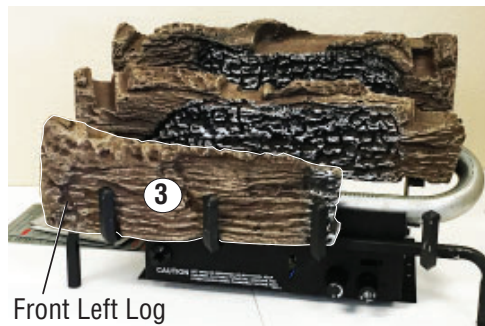

Figure 34 - Install Front Left Log
3. Align the notches in the front left log (#3) against the three corresponding grates as shown in **Figure 34**.